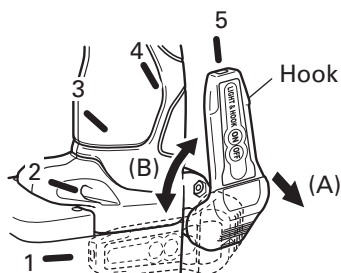

Fig. 5
- (a) Pull out the hook toward you in the direction of arrow (A) and turn in the direction of arrow (B). (Fig. 5)